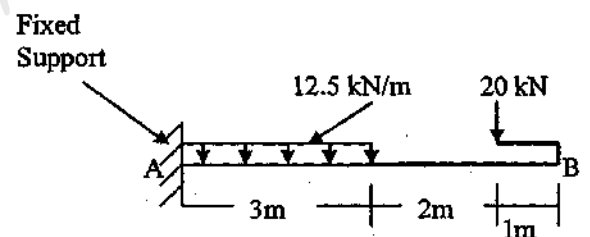

Figure 2a
(a) Draw the shear force and bending moment diagrams for the straight portion of the beam (AB) with all the critical ordinates. Furnish all the supporting calculations. Refer to Figure 2a.